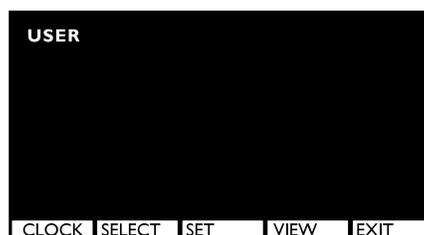
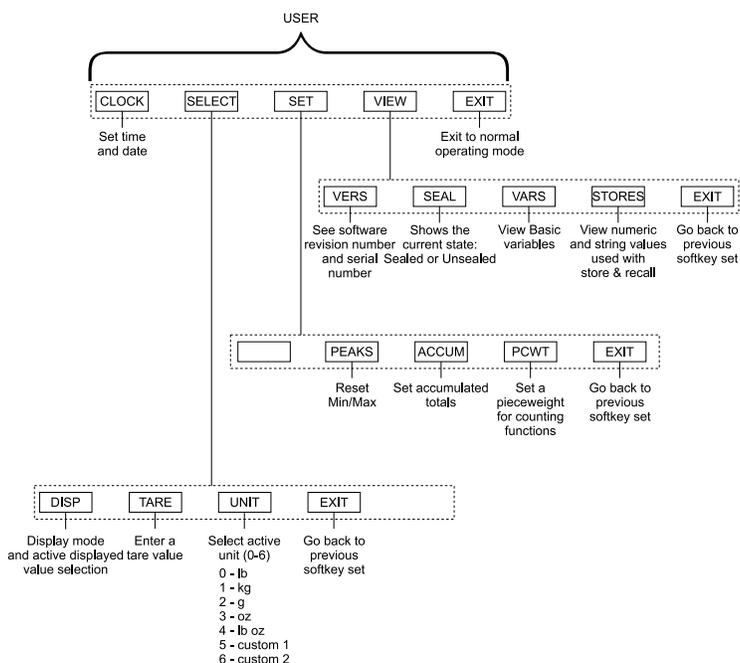

Figure 3
Figure 4
Key in 111 and press **ENTER**. . . the screen in Figure 3 is displayed.
Figure 4 is a flowchart showing what soft keys or choices appear as you press the soft keys shown in Figure 3.
2. Repeat step 1 for minutes, seconds, year, month, day, and day of the week (0=Sunday, 1=Monday, etc.). . . Display returns to display shown in Figure 3.